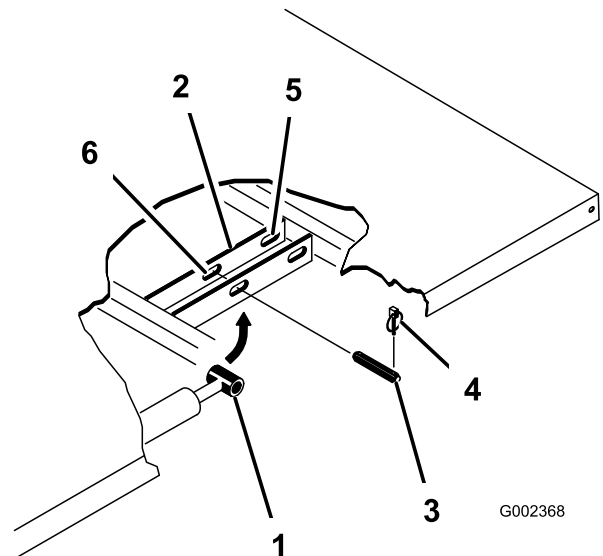

Figure 3
2. Remove the lynch pins from the outer ends of the cylinder rod clevis pins (Figure 3).
3. Remove the clevis pins securing the cylinder rod ends to the bed mounting plates by pushing the pins toward the inside (Figure 3).